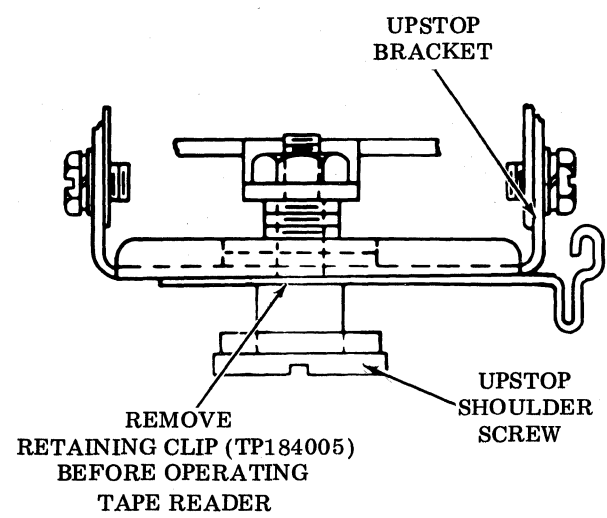

Figure 15 - Tape Reader Upstop Bracket Retaining Clip
Note: Before replacing an ASR cover, remove the retaining clip (early design units only) from the tape reader upstop screw (Figure 15). Also, prepare the punch for manual or automatic operation as described in 6.01.
4.01 A retaining ring or clip (Figure 15) is assembled (on early design units) to the upstop screw to prevent the sensing pins from being dislodged during shipment. This retaining clip must be removed before placing the tape reader in operation.